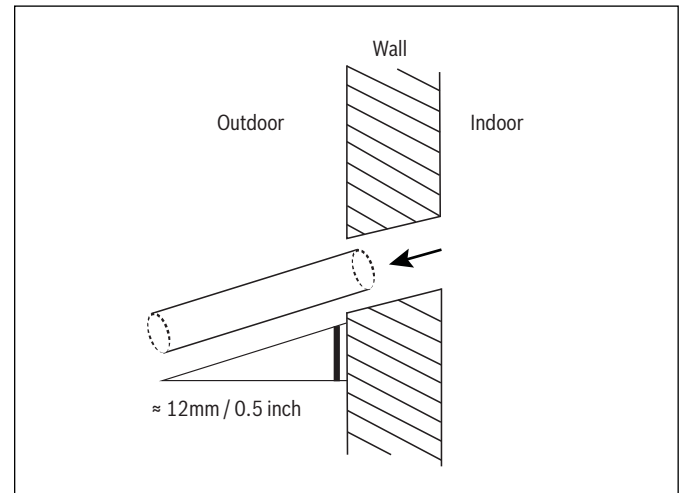

Figure 33
4. Using a 65-mm (2.5in) core drill, drill a hole in the wall. Make sure that the hole is drilled at a slight downward angle, so that the outdoor end of the hole is lower than the indoor end by about 12mm (0.5in). This will ensure proper water drainage (See Fig. 33). Place the protective wall cuff in the hole. This protects the edges of the hole and will help seal it once you finish installation.